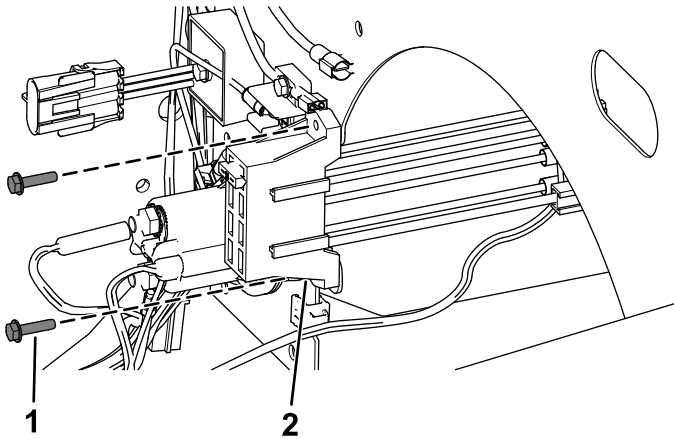

Figure 21
- For machines with Serial No. 403448001 and after, secure the new fuse block using the 2 self-tapping screws as shown in Figure 21.